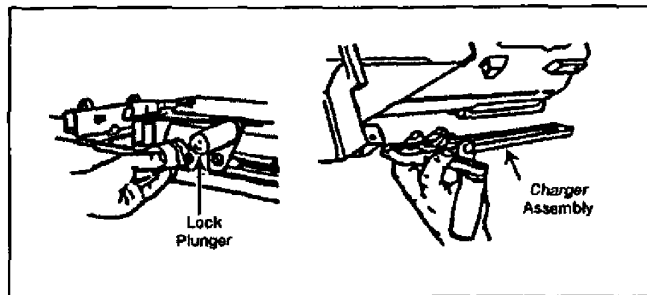

Figure 071-030-0001-13. Removal of the charger assembly
J. Remove the charger assemblies (both sides) (figure 071-030-0001-13).